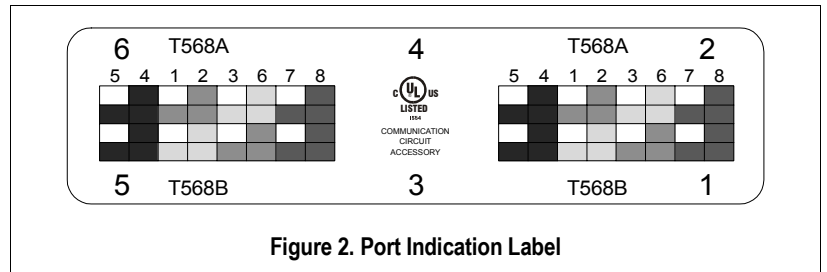

Figure 2. Port Indication Label
5. Refer to the label (Figure 2) located between the rails for port indications (6 ports per module).